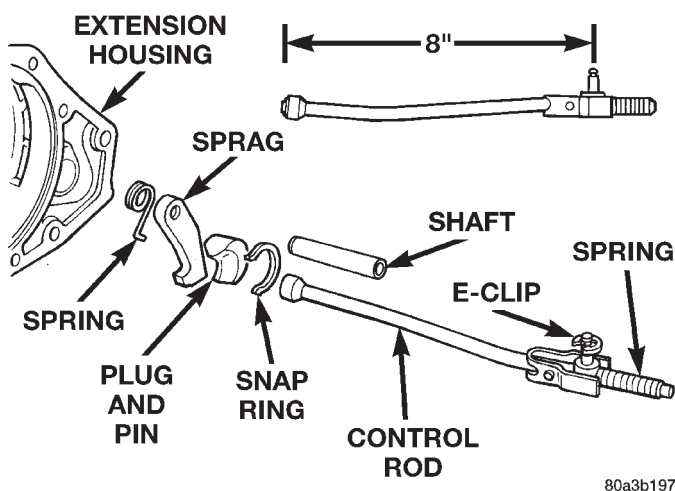

Fig. 34 Park Lock
- (1) Raise vehicle and remove propeller shaft.
- (2) Remove extension housing.
- (3) Slide sprag shaft out of extension housing and remove sprag and spring (Fig. 34).
- (4) Remove snap ring and slide reaction plug and pin assembly out of housing.
- (5) If park rod requires service, it will be necessary to remove valve body.
- (1) Inspect sprag shaft for scores and free movement in housing and sprag. Inspect sprag and control rod springs for distortion and loss of tension. replace worn, damaged parts as necessary.
- (2) Inspect square lug on sprag for broken edges. Check lugs on park gear for damage. Inspect knob on end of control rod for wear grooves, or being seized on rod. Replace rod if bent, if knob is worn/grooved, or it has seized on rod. Replace park gear if lugs are damaged. Replace the park lock rod if it is suspected that the rod is not the correct length.
- (3) Install reaction plug and pin assembly in housing and secure with new snap ring (Fig. 34).
- (4) Position sprag and spring in housing and insert sprag shaft. Be sure square lug on sprag is toward park gear. Also be sure spring is positioned so it moves sprag away from gear.
- (5) Install extension housing.
- (6) Install propeller shaft and lower vehicle.
- (7) Check transmission fluid level. Add fluid if necessary.